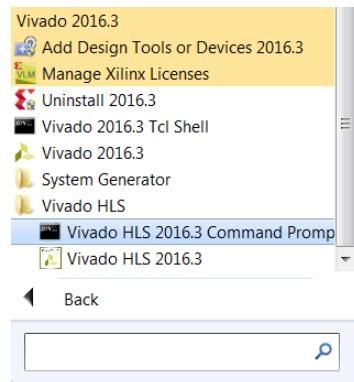

Figure 5-1: Vivado HLS Command Prompt
- a. On Windows use **Start > All Programs > Xilinx Design Tools > Vivado 2017.1 > Vivado HLS > Vivado HLS 2017.1 Command Prompt** (Figure 5-1).